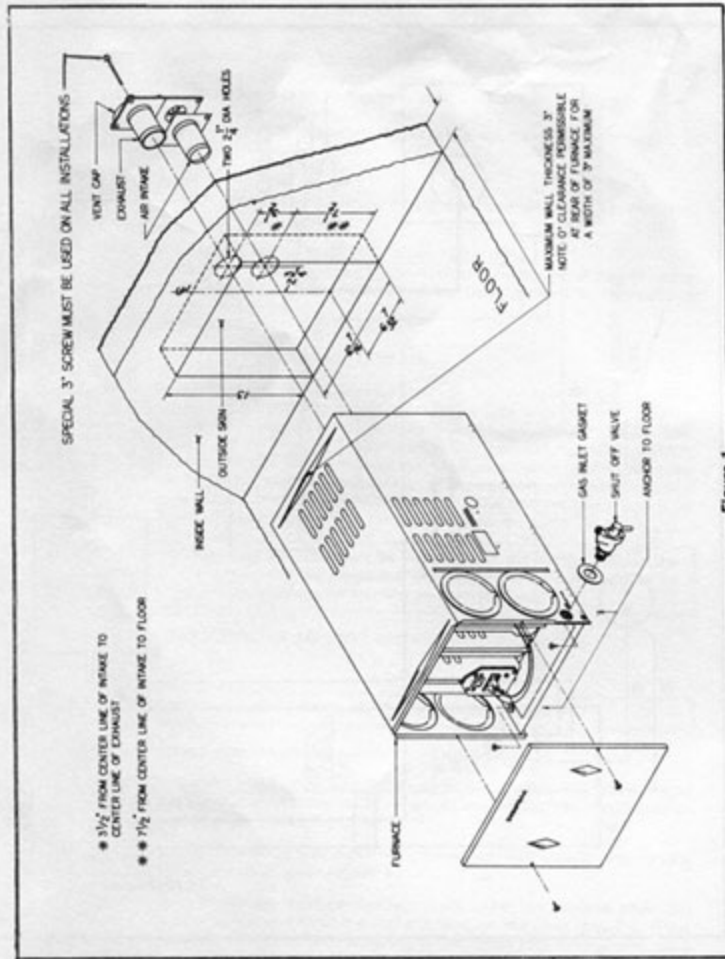

Figure 1
A. INSTALLATION DIRECTLY AGAINST OUTER SKIN OF COACH (See Figure 1)
NOTE: Side and top clearances may be 0" for through the wall installations up to a maximum wall thickness of 3". (See Figure 1.)
4-Cut an opening through the inner wall 12 7/16" x 13". This will allow the rear of the furnace to be installed against the outer skin of the coach. (See Figure 1.)
5-Cut two 2 1/4" diameter holes through the outer skin of the coach as shown in Figure 1.
7-Fasten furnace to floor of coach using the two holes provided in the front plenum area of furnace cabinet. (See Figure 1.)
4-Locate center lines for exhaust and intake tubes as shown in Figure 1. Cut two 2 3/4" diameter holes through coach wall for exhaust and intake. (See Figure 2.)
6-Fasten furnace to floor of coach using the two holes provided in front plenum area of furnace cabinet. (See Figure 1.)
1-Locate center lines for exhaust and intake tubes as shown in Figure 1.
7-Fasten furnace to floor of coach using the two holes provided in the front plenum area of the furnace cabinet. (See Figure 1.)
1-Be sure that the manual shut-off valve is outside of the furnace jacket and easily accessible. (See Figure 1.) The shut-off valve is to be connected directly to the 90° elbow at the gas inlet to the furnace. To assure an airtight seal, be sure the gasket provided with the furnace is installed between the shut-off valve and the furnace cabinet, as illustrated in Figure 1. If this gasket is omitted, it could result in overheating of component parts within the furnace.
- Fasten furnace to floor of coach using two holes provided in front plenum area of furnace cabinet. (See Figure 1.)
- Install vent cap as shown in Figures 1 or 2.